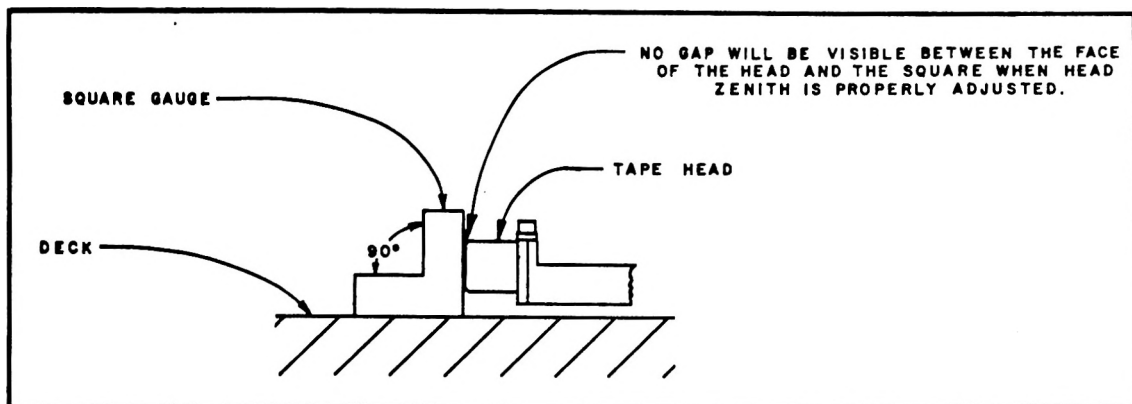

Figure 3-14
3. Coarse Zenith: Adjust the Rear Height Set Screw until the face of the head is perpendicular with the surface of the deck. Position the Tape Height Gauge, or any gauge known to be square, on the deck surface and move it against the face of the head as shown in Figure 3-14. The gauge must be demagnetized before making adjust